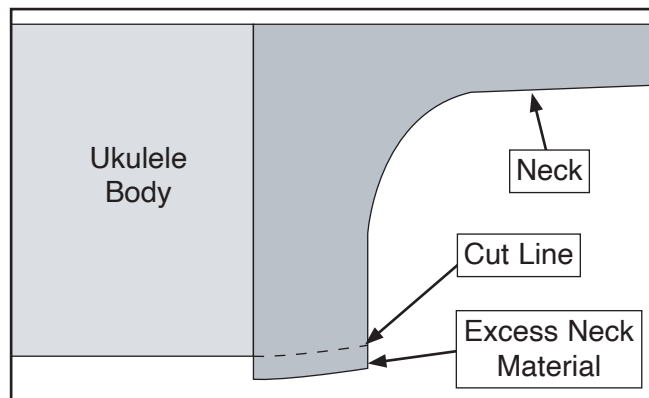

Figure 9. Excess neck material and cut line.
9. Use a fine tooth saw or hobby knife to remove excess neck material that protrudes below body of ukulele (see **Figure 9**).